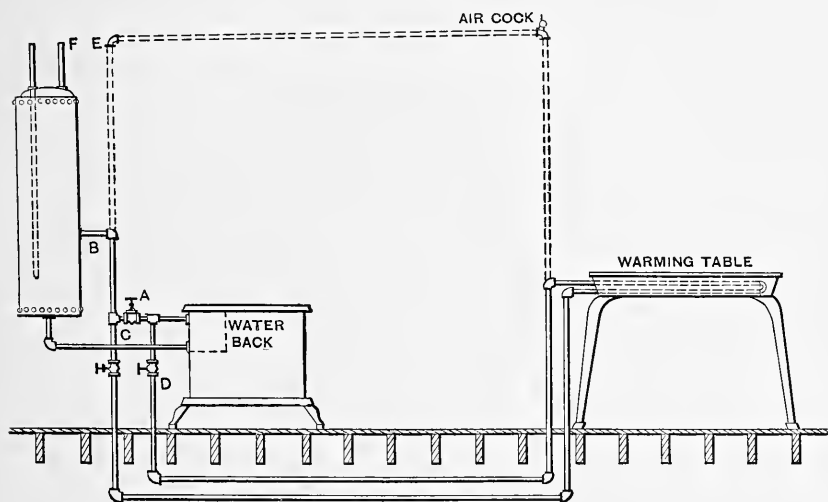

*Fig. 2.*—Horizontal Boiler with Return Bend Coil.
*From J. B. R., Atlanta, Ga.*—The building I am in is heated by steam, and I want to have a supply of hot water for my work. I can get the steam and water readily enough, but am undecided about heating it. I am recommended to use an ordinary kitchen boiler with a steam coil in it to heat the water. I know that an upright boiler is preferable where a water back is used, but a horizontal boiler could be used to better advantage, so far as space is concerned, if it is just as satisfactory in operation. I send you a sketch of the two boilers recommended, and would like your opinion as to which is the better. Fig. 1 shows the upright boiler with a spiral coil, and Fig. 2 shows the horizontal boiler with a return bend coil in it. The upright boiler has the usual openings for a water back connection, which can be used at the time of year when steam is not employed for heating, and the openings can be plugged when the water back is not used. I am told that the horizontal boiler can also be furnished with these openings.